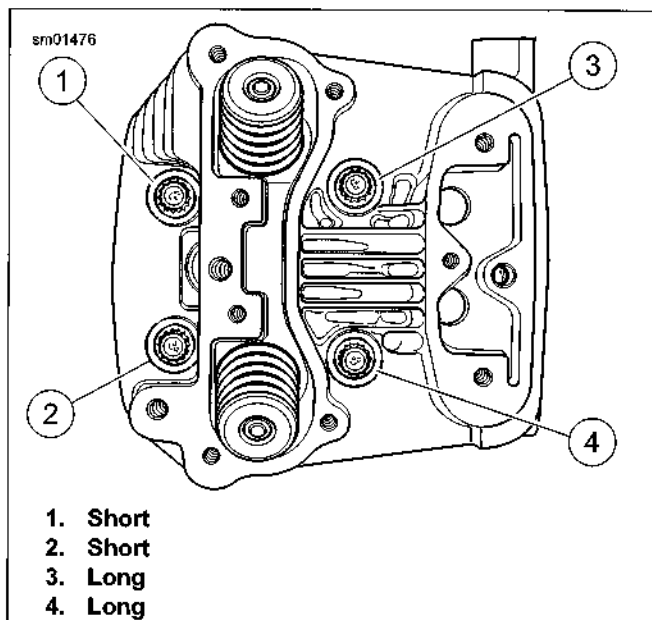
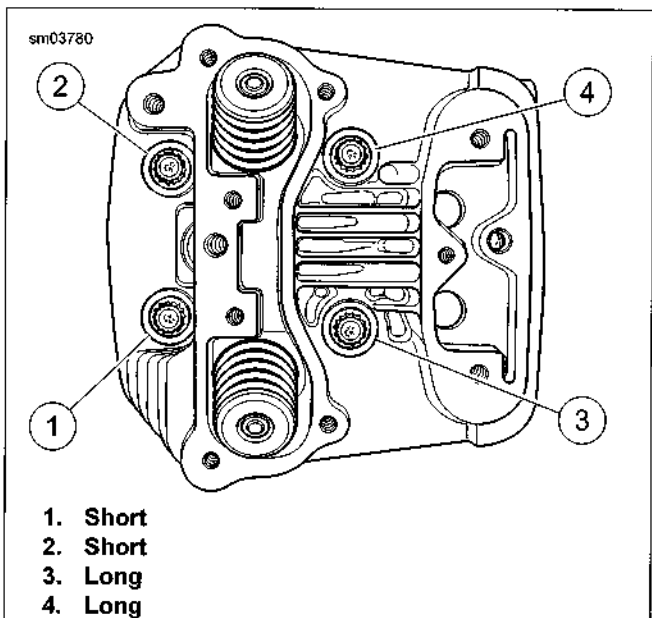

Figure 3-71. Front Cylinder Screw Torque Sequence
Figure 3-72. Rear Cylinder Screw Torque Sequence
9. See Figure 3-71 and Figure 3-72. In sequence, tighten screws in the following steps: